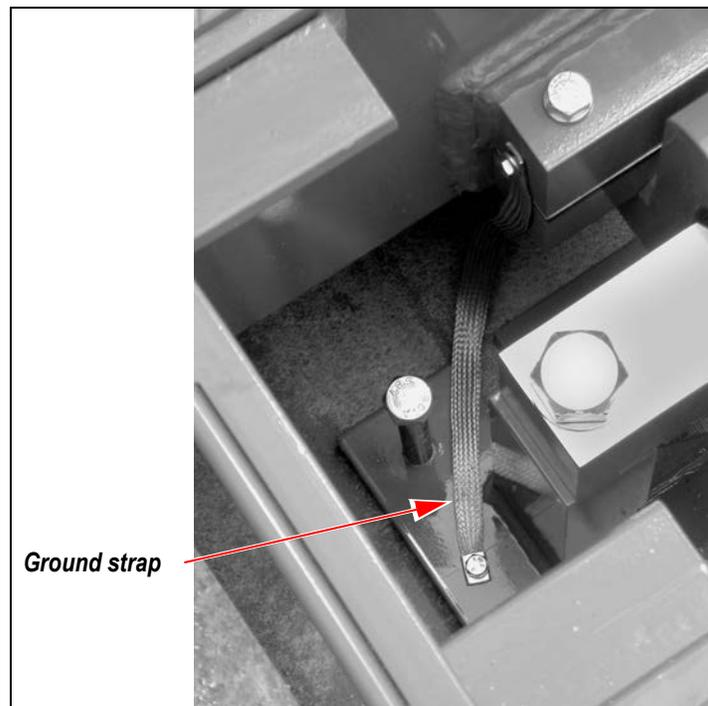

Figure 4-11. Ground Strap
9. Insert a bolt through the wire terminal on the loose end and thread the bolt into the hole on the baseplate; tighten the bolt securely with a wrench (Figure 4-11 on page 13)